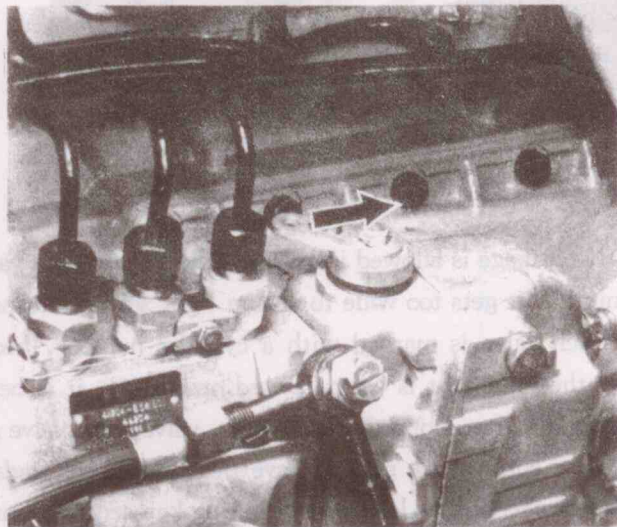

Fig.2
- A. Before stopping the engine, reduce load and speed gradually, run the engine at lower – middle and idle speeds for several minutes. When the temperature of cooling water is below 70°C, cut off the fuel delivery by pulling the engine stop lever to stop the engine(see Fig 2).
(1) Slacken the connecting nuts connecting the high pressure fuel pipes.
(2) Block up the intake pipe.